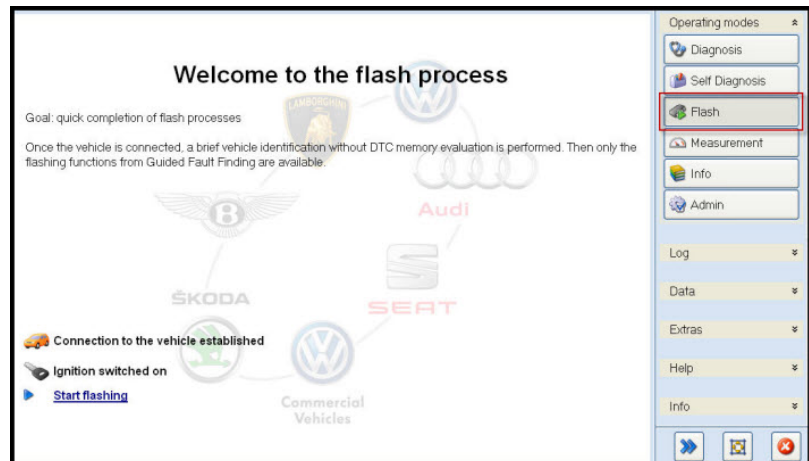

Figure 3. Selecting the Flash option in ODIS.
8. On the main ODIS screen, select **Flash** (unless otherwise directed by the bulletin or by TAC) (Figure 3). This is the quickest way to execute an SVM code.